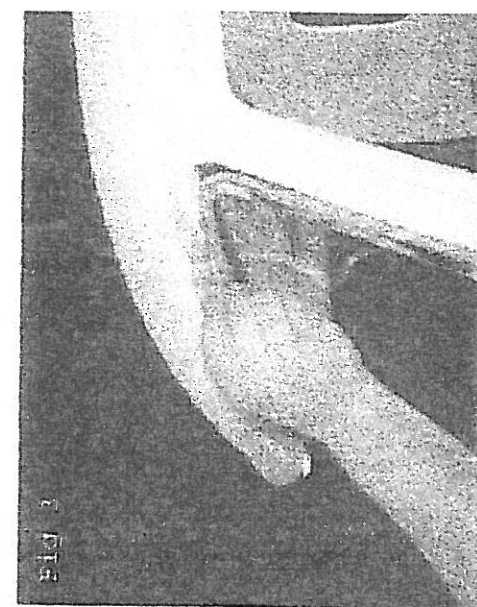

FIG 3
2. Align the frame side to side in the opening and put a mark on each end of the hinge (Fig. 3). Scribe a line on the hinge and the body to locate how far the hinge sits out as well. NOTE: